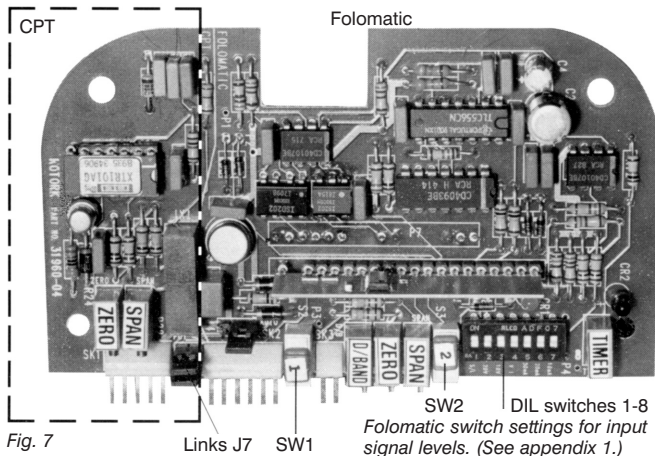

Fig. 7
- a Using Fig 7 locate the duel links J7. For a clock to close valve and low signal at closed and For an anti-clock to close valve and low signal at open. Links J7 must be positioned parallel to the edge of the board.
Using Fig 7 locate switches 1 and 2, select as follows:
2 Determine what control input signal is going to be used, refer to Fig. 7 and locate the block of DIL switches and select range required.
3 When using a 4-20mA control loop signal it is possible to select whether the actuator will "stay put" or fail to the 4mA end of travel on loss of signal. Switch No 1 on folomatic DIL switches to be selected 'on'. Switches P1 and P2 on **Main Board DIL Switches** (Fig. 7). Both selected 'on' gives fail to the close end of travel. Both selected 'off' gives fail to the open end of travel. One switch 'off' and one 'on' will give 'stay put'.